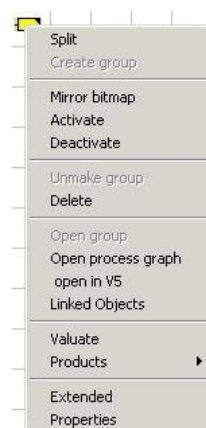

Figure 111: Opening the Properties Dialog via the Context Menu
- 2) Press the right mouse button and click **Properties**. Please refer to the Figure 111. If you want to see the extended menu, click **Extended**.